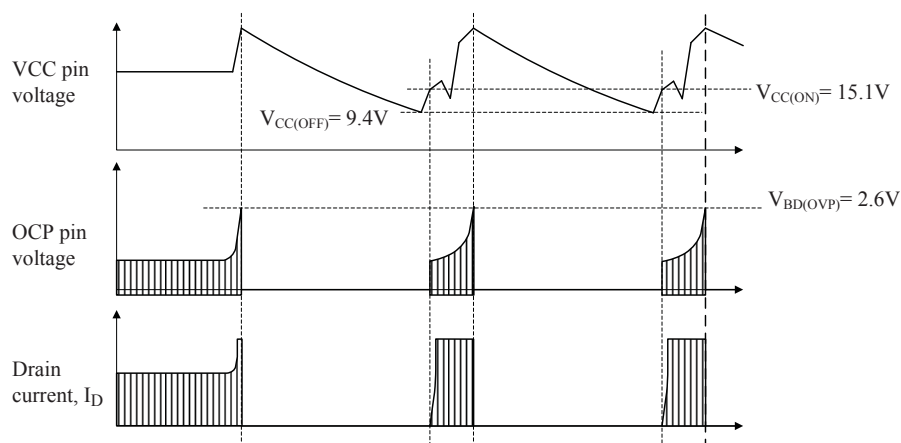

Figure 35. Waveforms when OCP pin OVP is being activated (LC551xD)
• OCP Pin Overvoltage Protection. Figure 35 shows the OCP pin OVP function. When the OCP pin voltage with reference to the S/GND pin reaches $V_{OCP(OVP)} = 2.6 \text{ V}$ or more, OVP is activated.